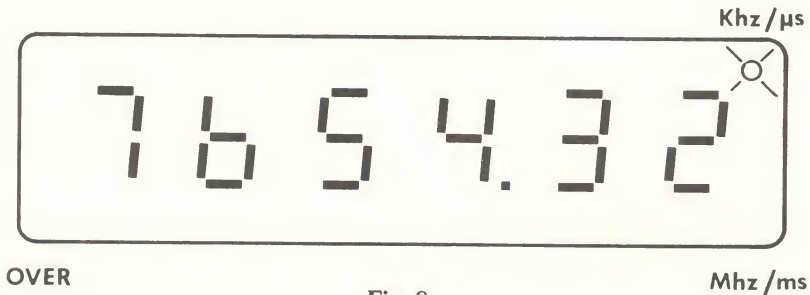
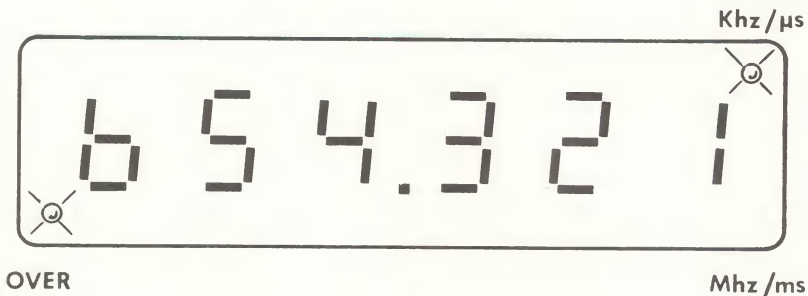

Fig. 8.
Fig. 9.
Fig. 8 illustrates a display of 7654.32 KHz with the AUTO/1 SEC switch in the AUTO (out) position. As indicated by the position of the decimal point, the least significant digit displayed is the tens digit. As a result, the reading may be in error by as much as 10 Hz (.01 μ SEC in the PERIOD function) because of the uncertainty of the last digit.
If the AUTO/1 SEC switch is set to the 1 SEC (in) position while the same input frequency is applied, the display could appear as shown in Fig. 9. In this display, the least significant digit shown is the units (ones) digit as indicated by the decimal point position. Consequently, the accuracy of this measurement is improved because the uncertainty of the last digit is 1 Hz instead of 10 Hz. However, note the most significant digit (7) in Fig. 8 is not displayed in Fig. 9. This is indicated by the OVER indicator flashing on and off.